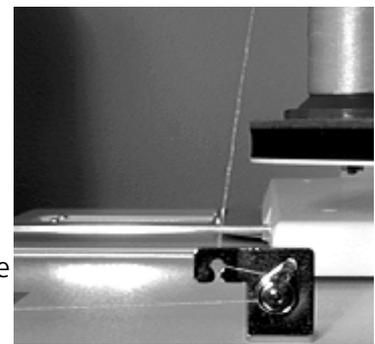

Figure 2-13
2. After hooking the bobbin thread onto the thread guide above the bobbin thread cone, route the thread through the first thread guide, and then the second guide, in this order. Each thread guide features a thread path diagram, as shown in Figures 2-13 and 2-14.